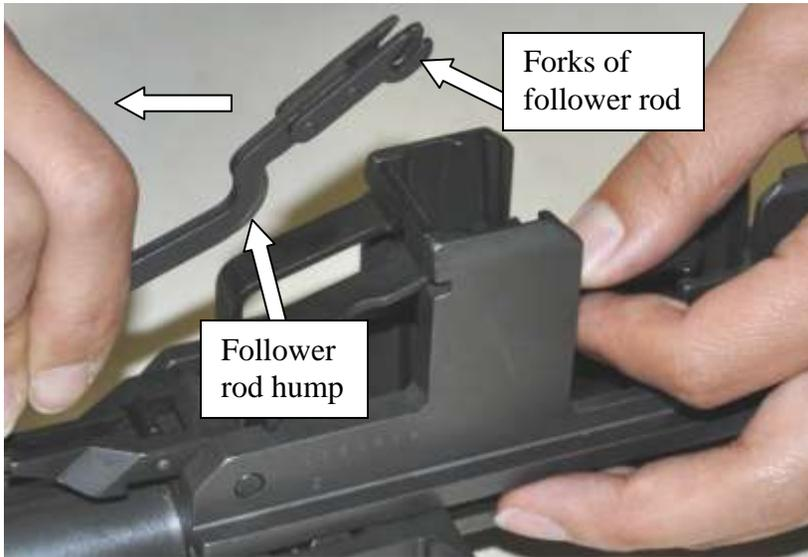
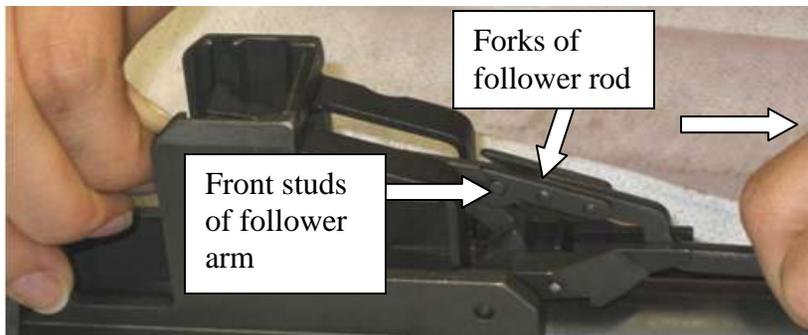

Figure 48 -Orientation of follower rod
Figure 49 -Insertion of operating rod spring
- 9) Insert the loose end of the operating rod spring into the operating rod. Grasp the follower rod, making sure that its hump is down/toward the barrel (fig 48). Compress the operating rod spring, and engage the forks of the follower rod with the front studs of the follower arm (fig 49). You may have to raise the follower assembly to do this.